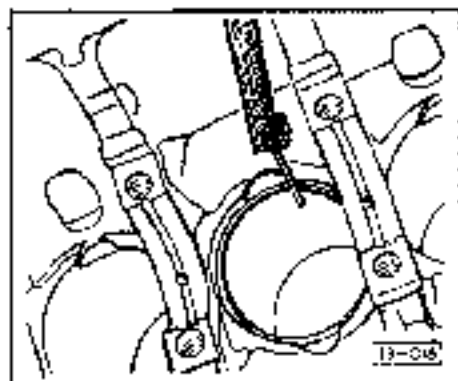

Fig. 4. Inserting piston into cyl. b.
- Checking ring gap = Fig. 4
- Checking (Fig. 4)
- 5. Slide in the nut (10)
- Pressing out from nuts - (Fig. 4)